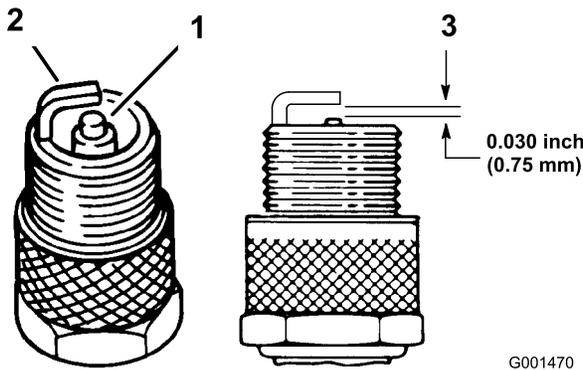

Figure 22
1. Look at the center of the spark plugs (Figure 22). If you see light brown or gray on the insulator, the engine is operating properly. A black coating on the insulator usually means that the air cleaner is dirty.
2. Check the gap between the center and side electrodes (Figure 22). Bend the side electrode (Figure 22) if the gap is not correct.
3. Connect the wires to the spark plugs (Figure 22).